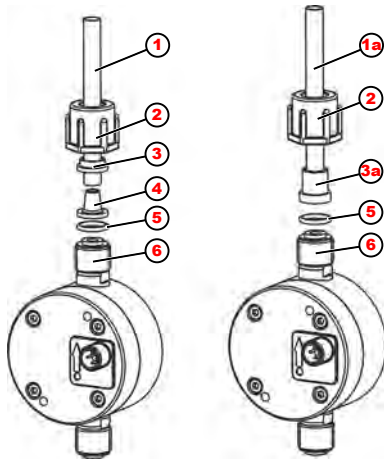

Fig. 4: Overview
- Cut the hose (Fig. 4, pos. 1) at right angles.
- Slip the union nut (pos. 2) and clamping element (Pos. 3) over the hose.
- Slip the hose onto the cone (pos. 4) up to the stop collar.
- Position the O-ring seal (pos. 5) into the groove provided on the connecting adapter (pos. 6).
- Connect the hose and cone (pos. 4) and tighten the union nut (pos. 2).
- Cut the pipe (Fig. 4, pos. 1a) at right angles.
- Slip the union nut (pos. 2) over the pipe.
- Weld / adhesive bond the insert (pos. 3a) to the pipe.
- Position the O-ring seal (pos. 5) in the groove provided on the connecting adapter (pos. 6).
- Tighten the union nut (pos. 2).